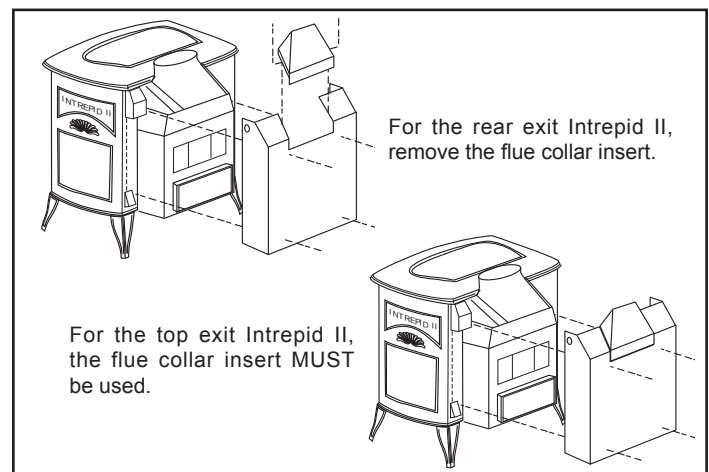

Figure 2 - Intrepid II flue collar insert.
- 2a. **For the Intrepid II ONLY:** The rear heat shield is packaged with the flue collar insert in place on the shield. If your Intrepid II will be installed with the flue collar in the top-exiting position, leave the insert in place. (Figure 2) If your stove will be installed with the flue collar in the rear-exiting position, remove the insert. (Figure 2) To remove the insert, remove the two sheet metal screws holding it to the rear heat shield. Tape the screws to the insert. Save the insert and screws for use if the stove installation is changed and the flue collar is in the top-exiting position.